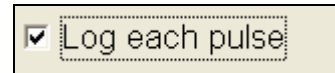

Figure 16.4.4C
3. Next check the **Log each pulse** box if you want them to show up in your alerts (Figure 16.4.4C).